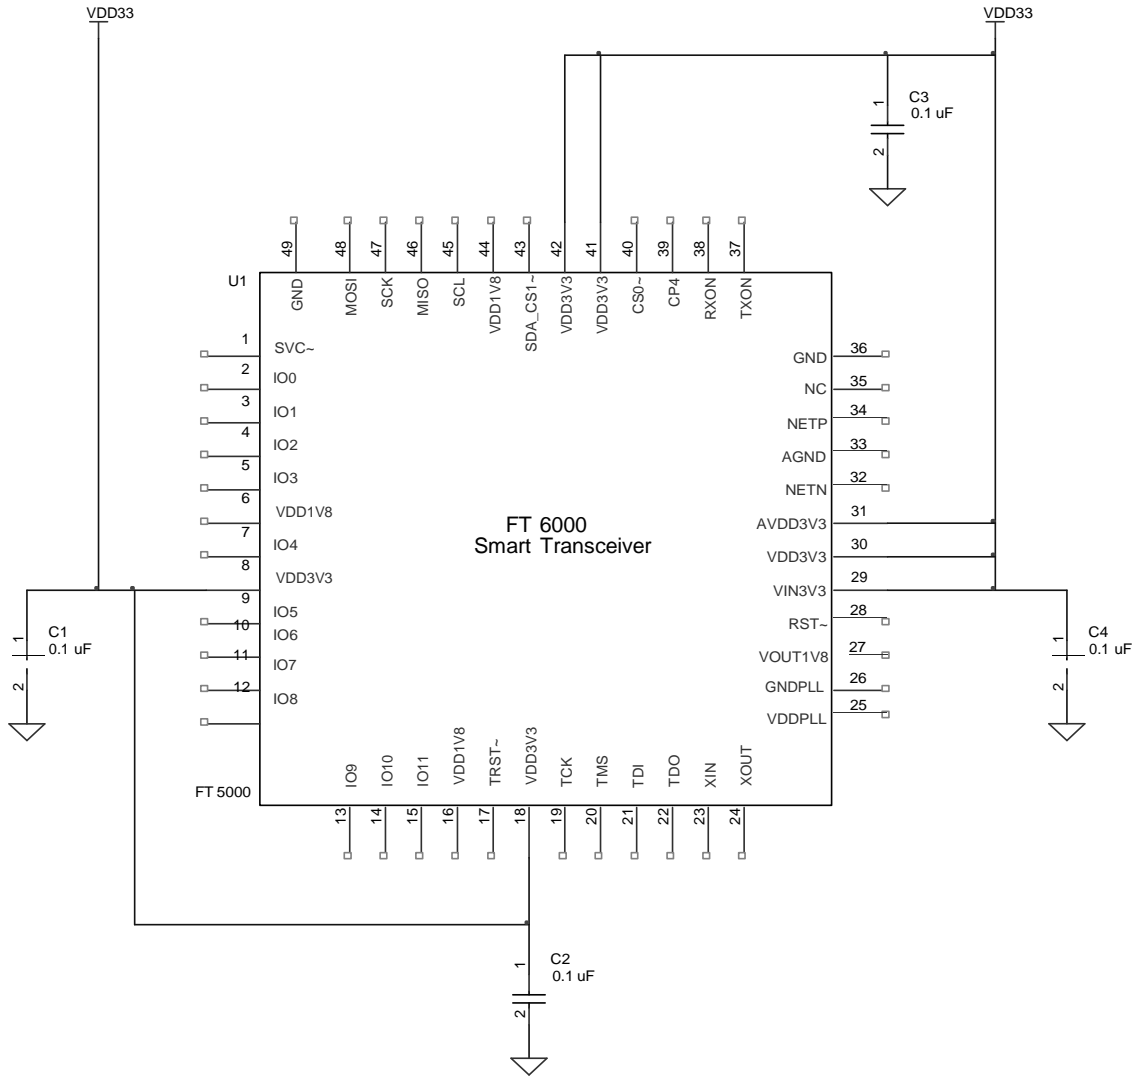

Figure 10. Connections for the VDD33 Pins
Connect the **VDD3V3** pins (8, 18, 29, 30, 41, and 42) to V_{DD33} . Also connect the **AVDD3V3** pin (31) to an analog V_{DD33} source, if different from the digital V_{DD33} source. In general, the **VDD3V3** pins and the **AVDD3V3** pin connect to the same V_{DD33} source. In addition, connect decoupling capacitors to the **VDD3V3** pins, as shown in **Figure 10**.